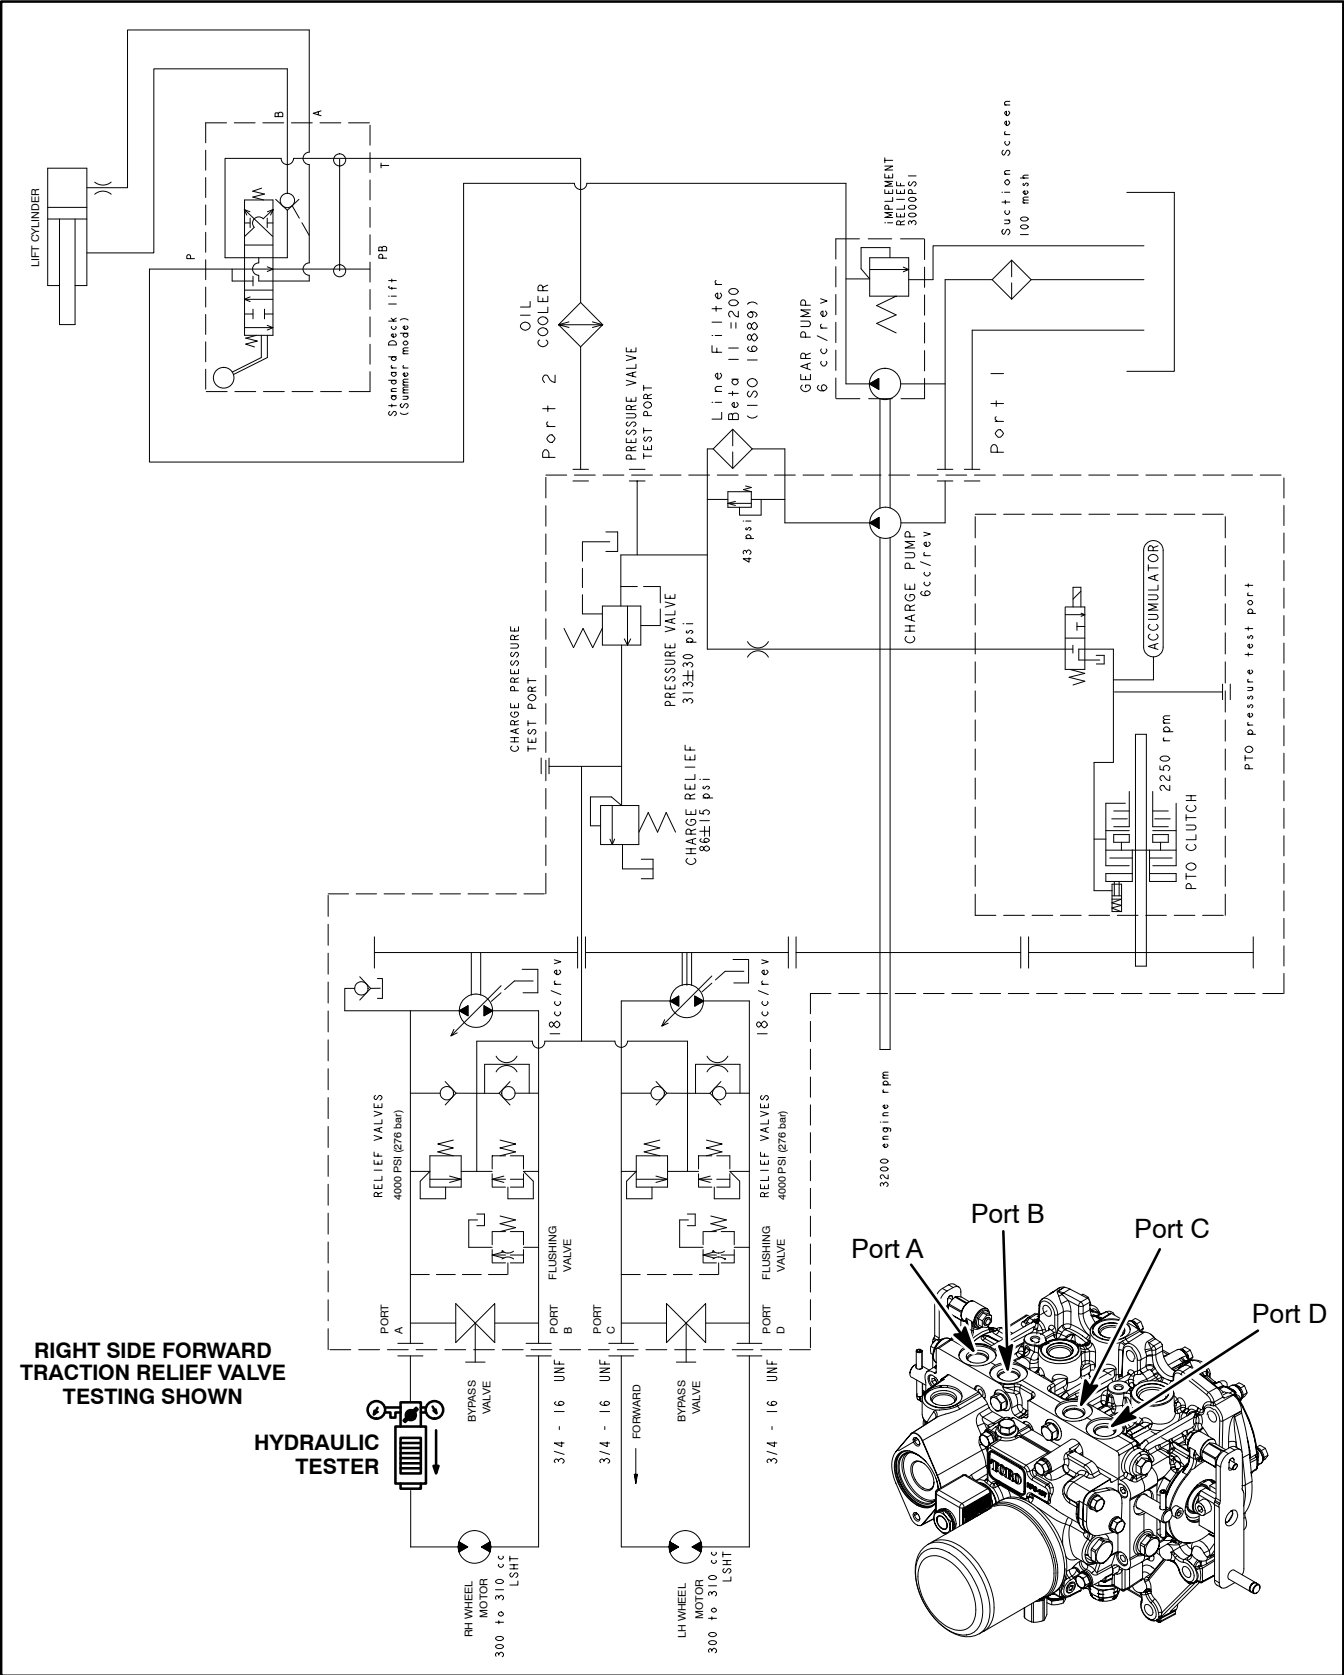

Figure 17
4. Thoroughly clean transmission area surrounding traction circuit hoses on top of transmission (Fig. 17). Determine which traction relief valve is to be tested.
5. Disconnect hydraulic hose from transmission pump outlet fitting for relief valve to be tested (Fig. 17):